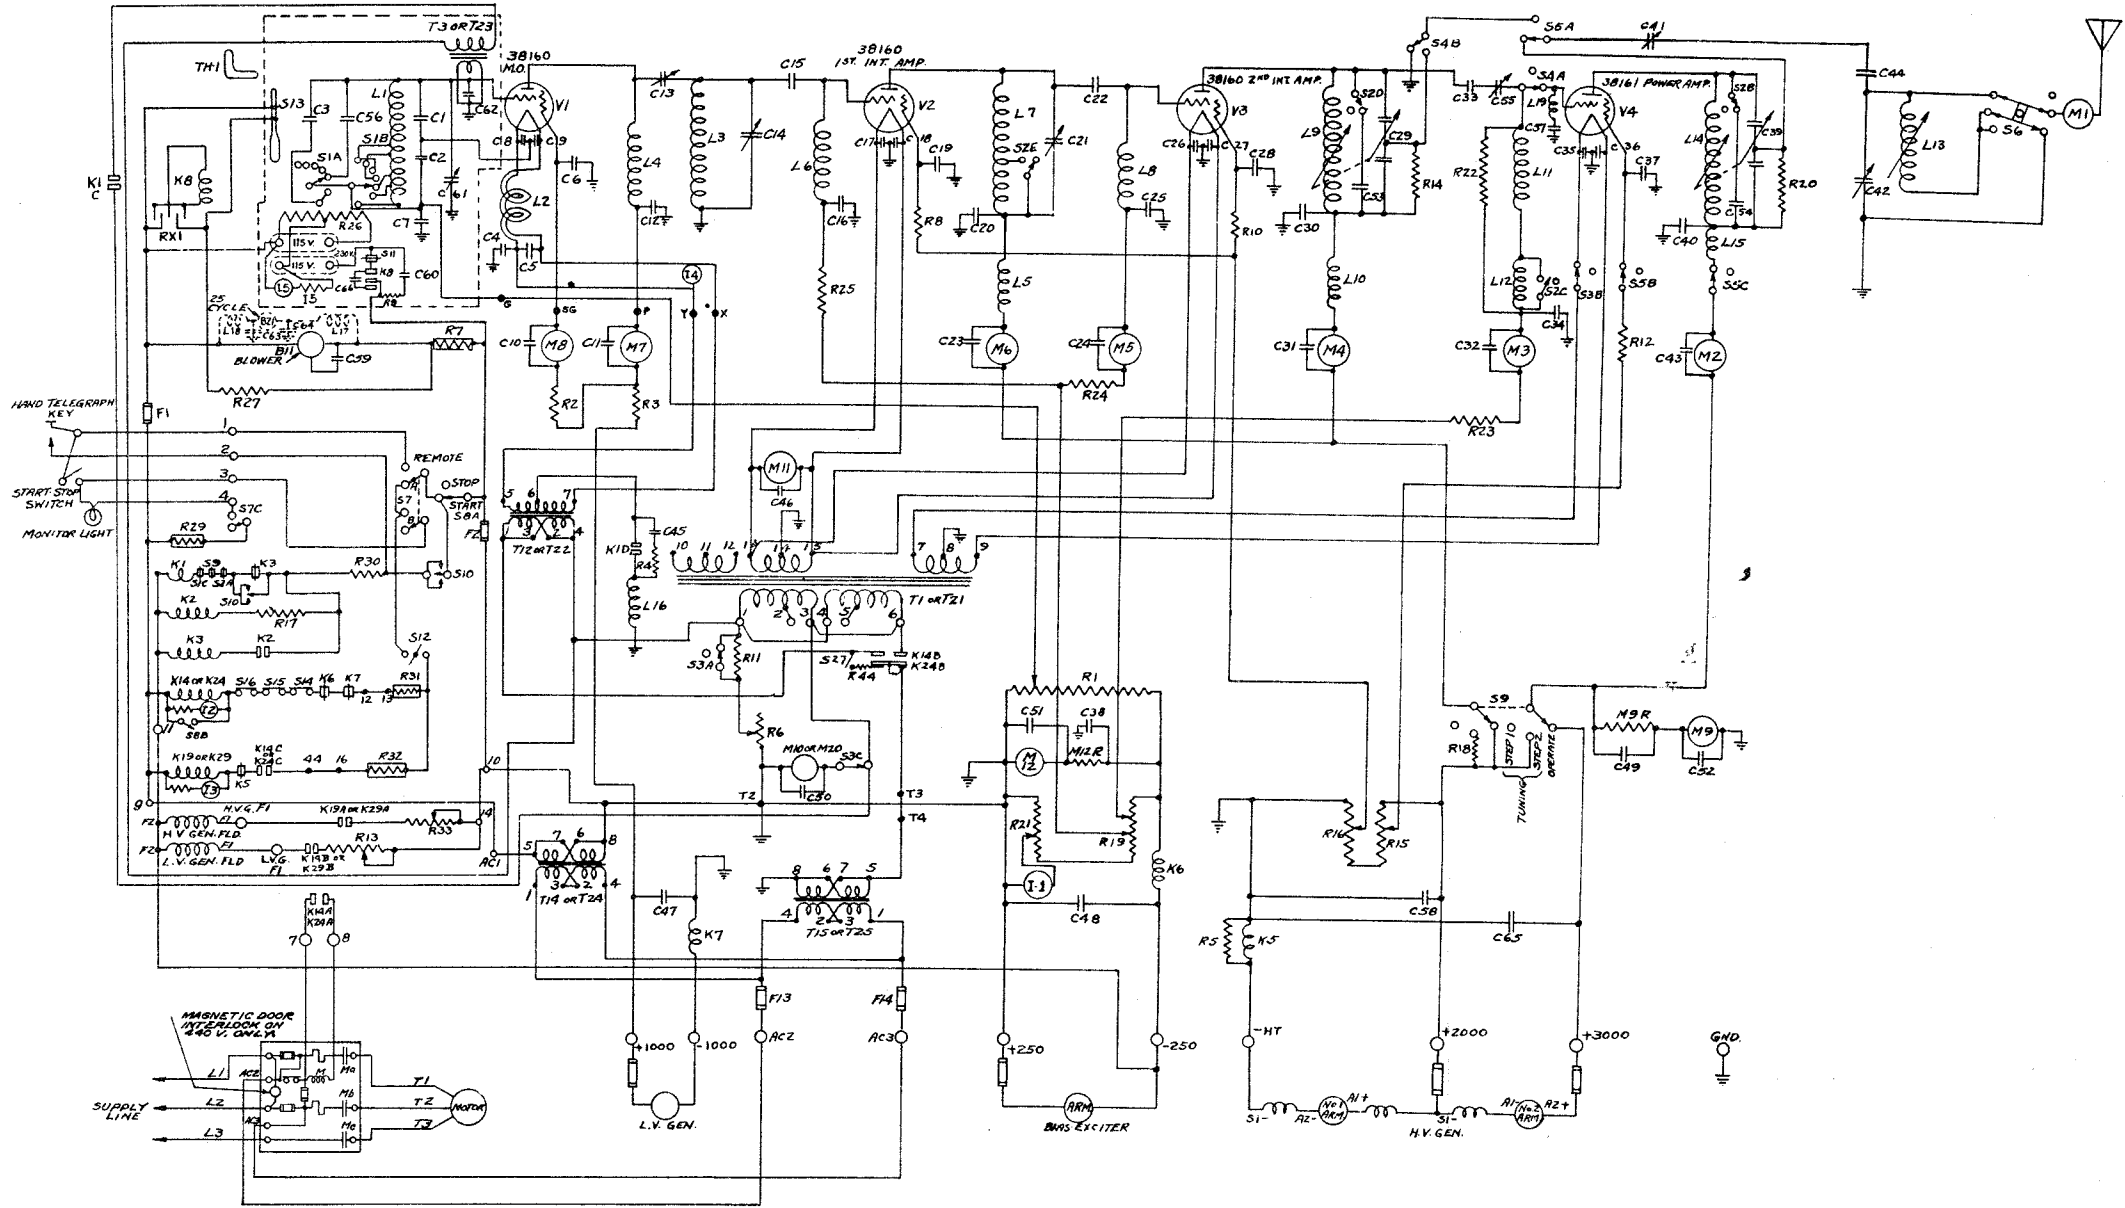

Figure 131.—Schematic of a TBK transmitter.
If an accurate resistance measurement or continuity test is to be made on any device or circuit, you must first be sure that the test is not being made through a parallel "sneak" circuit. A good example of this is in the keying relay circuit of the TBK transmitter (fig. 131). The keying relay is K-1 and the buffer relay is K-2. A test across the terminals of either of these relays would show continuity whether the relay was open or not. Resistance will always be lower than it should be if there is a parallel sneak circuit around the resistance.
4. Inspection of the diagram (fig. 131) shows that all the high voltage generator fields are excited by the 250-volt armature of the low voltage generator. The field circuits are controlled by the field relay contacts K-9-A and K-9-B. In series with the coil of the field relay K-9 are the contacts of the plate overload relay K-5, contact K-4-B of the master relay, and possibly a voltage-dropping resistor.